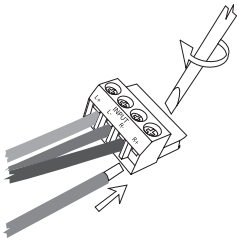

Figure 4
- 2.) Insert each wire from the amplifier into the proper L+, L-, R+ or R- **input** terminal and use a small screwdriver to tighten each screw; see **Figure 4. Make sure to observe proper polarity for each connection.**
- 3.) Insert each wire from the speakers into the proper L+, L-, R+ or R- **output** terminal and use a small screwdriver to tighten each screw; see **Figure 4. Make sure to observe proper polarity for each connection.**